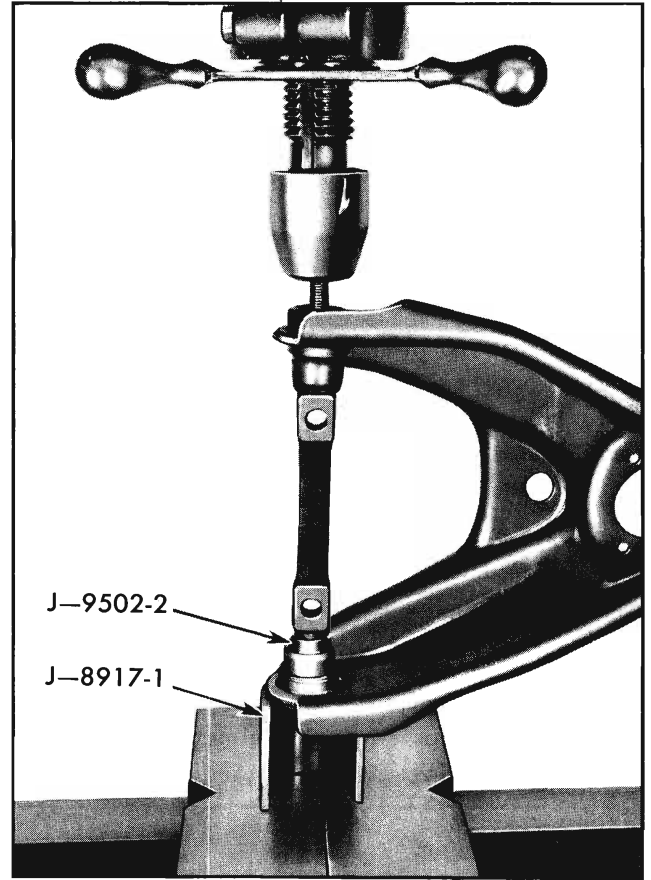

Fig. 3-23 Removing Bushing
3. Invert control arm and press out bushing (Fig. 3-23).